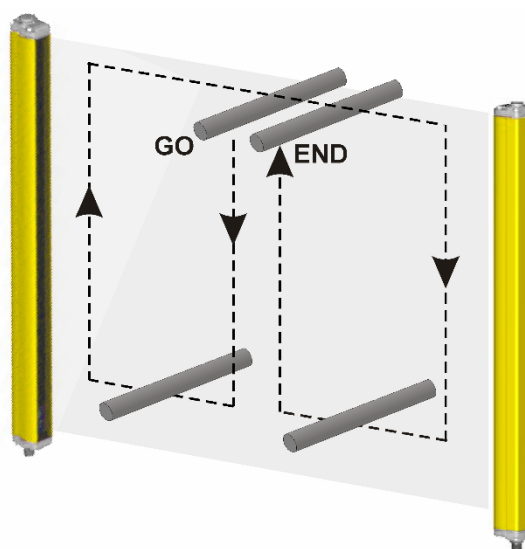

Figure 13 – Scheme for checking the function
- The AOPD remains in OSSD OFF state (➡I) during beam interruption along the entire detection zone, using the suitable “Test piece” and following the Figure 13 scheme. The suitable “Test Piece” has one dimension identical with the resolution of the AOPD, a cylinder with a 14 mm diameter for a light curtain with a 14 mm resolution for example.